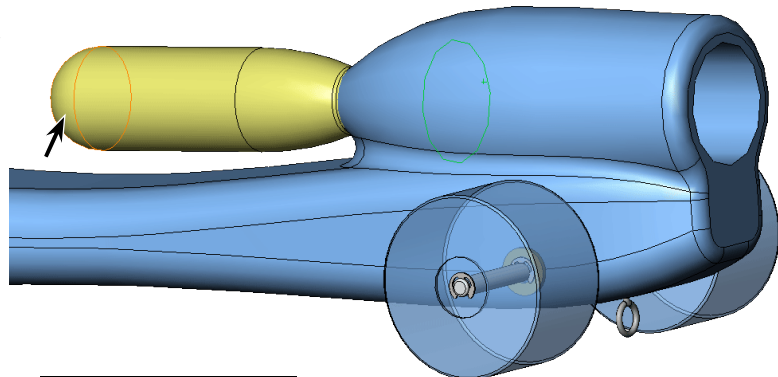

Fig. 26
Step 5. Rotate view to view **bottom of cartridge**, hold down middle mouse button (wheel) and drag to rotate view, **Fig. 26**.
Step 6. Click **bottom face of the cartridge**, **Fig. 26**.